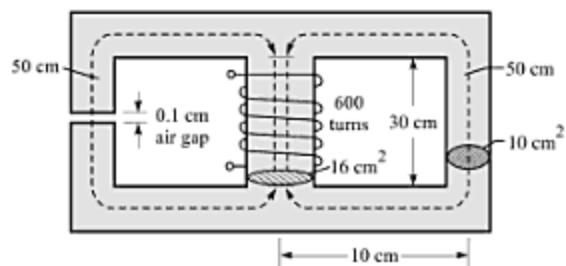

Fig. B-14
- B-72.** A magnetic core made up of an alloy has the dimensions as shown in Fig. B-14. Calculate the exciting current required to produce a flux of  $1 \text{ mWb}$  in the air gap, neglecting leakage and fringing. The  $B$ - $H$  curve is as follows: